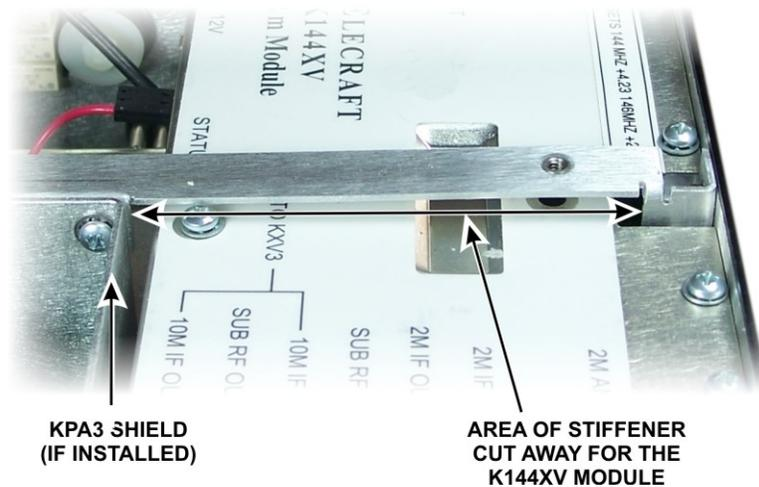

Figure 10. Chassis Stiffener for K144XV.
- Replace the chassis stiffener using the screws you removed earlier. If your original stiffener lacks the cutout required for the K144XV as shown in Figure 10, use the stiffener supplied with your K144XV kit.